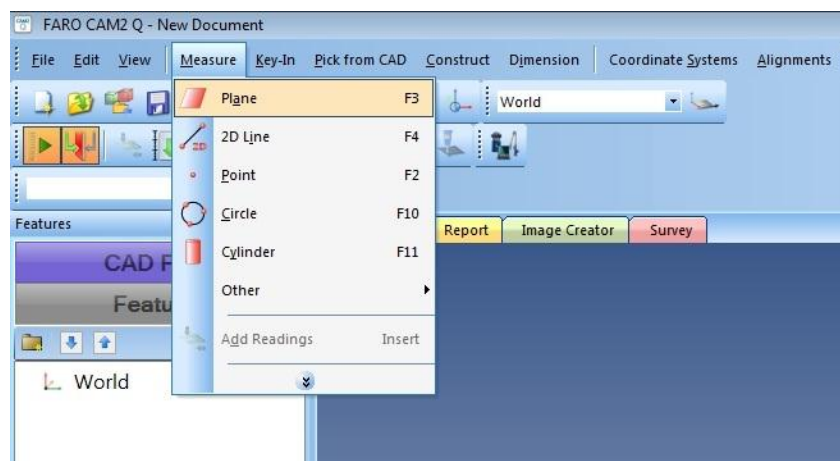

Figure 3: Plane Measurement
4.3.1.1 Measure a Plane. Click on the Measure dropdown tab on the top pane and select Plane as shown in Figure 3.